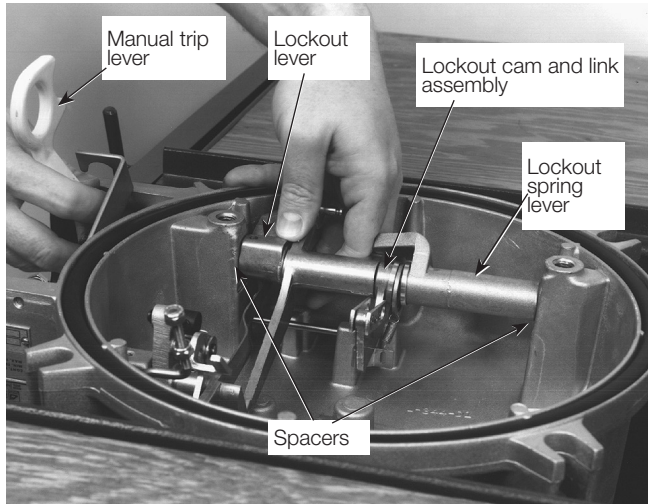

Figure 16. Head mechanism parts being removed
7. Pull operating lever from assembly and lift out lockout spring lever, spring guide and spacers, lockout cam and link assembly, and lockout spring lever, see Figure 16.